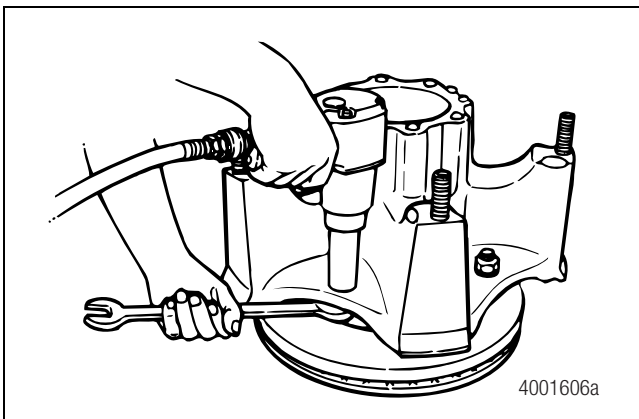

Figure 8.8
4. Remove any nuts, bolts and washers. Separate the disc from the wheel or hub. Figure 8.8.